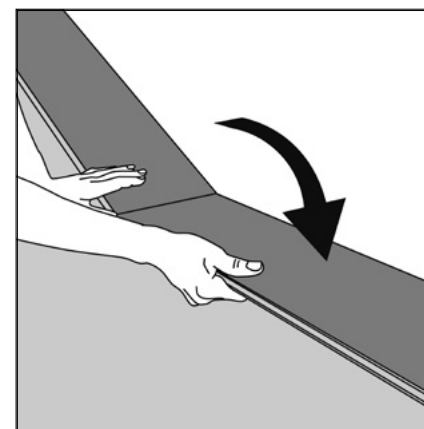

Figure 11 Second plank, first row
- > Press the short end of the next plank/tile at an angle to the first one (fig. 11), and then lay down. Complete the first row in the same way.